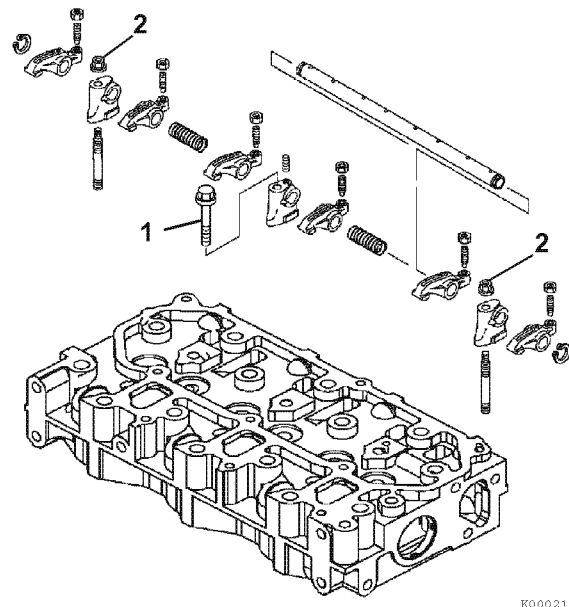

Figure 6-4
1. Remove the bolts (Figure 6-4, (1)) and nuts (Figure 6-4, (2)) that retain the rocker arm shaft supports.